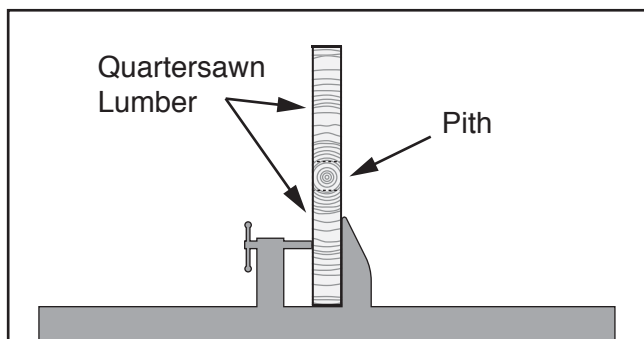

Figure 53. Pith to be removed from board.
15. Clamp board with pith to track bed, using log supports to ensure board is perpendicular to track (see **Figure 53**).
16. Cut just above pith, then remove resulting quartersawn board from board secured to track (see **Figure 53**).
17. Cut just below pith. Remove and discard pith (see **Figure 53**).